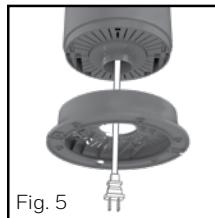

Fig. 5
- Carefully lift the fan housing (Fig. 5) and place the power cord through the center of the base.